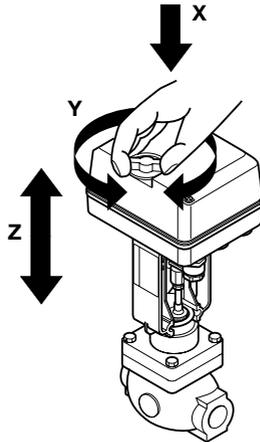

Fig. 2
Depressing the handwheel (X) and turning in the desired direction (Y) will move the stem (Z) (see Figure 2 below).